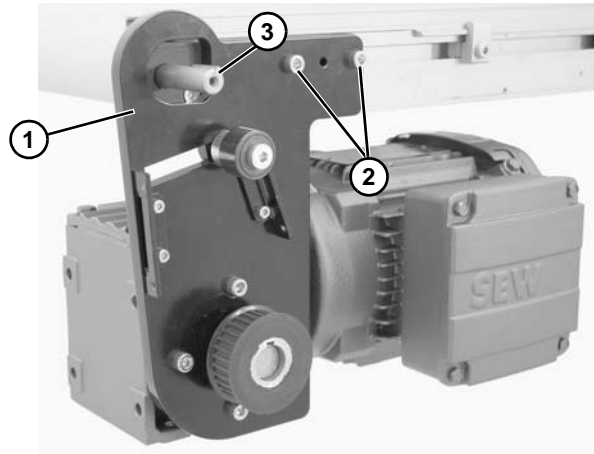

Figure 8
- Attach mounting assembly (Figure 8, item 1) with screws (Figure 8, item 2). Tighten to 80 in-lb (9 N-m).
- Install key (Figure 8, item 3).